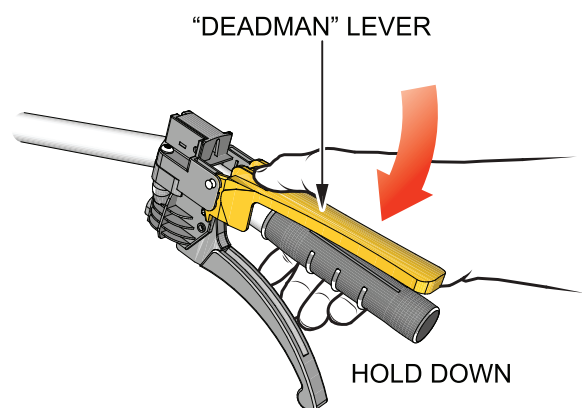

Figure 17. Deadman Lever (Petrol)
2. With the engine running, fully squeeze the **YELLOW** deadman lever (Figure 17) and hold down. Transmission is now active (unlocked).